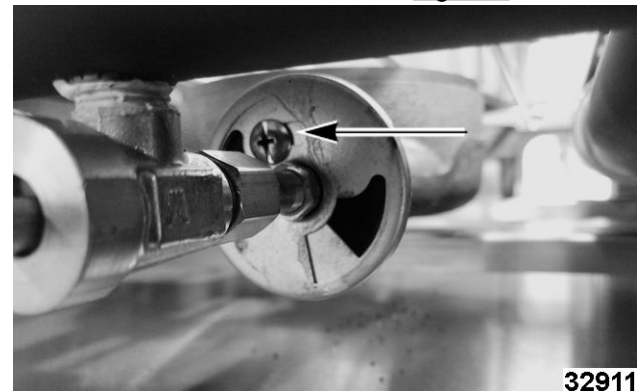

Fig. 110
2. Loosen screw on air shutter. Fig. 110